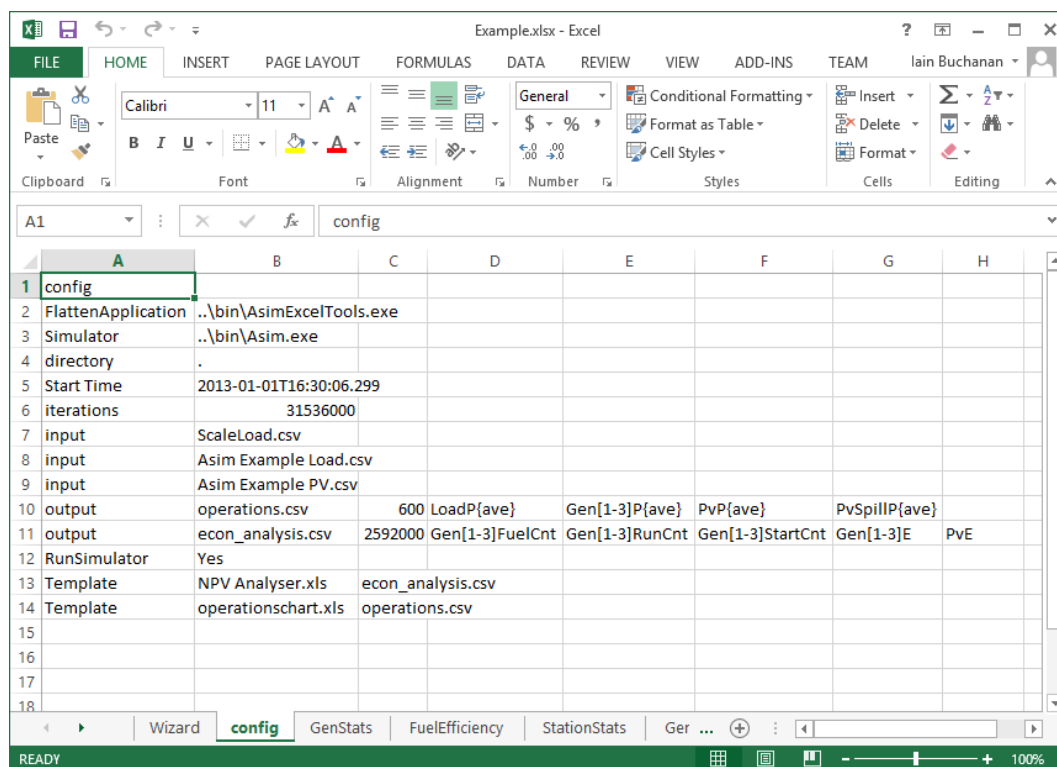

Figure 27 Config tab after templates have been entered
8. The config tab is now complete and should look similar to Figure 27